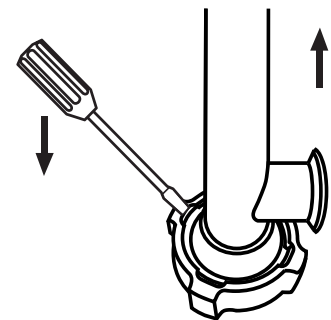

Figure 6
6. Remove the connection nut (see Figure 6).